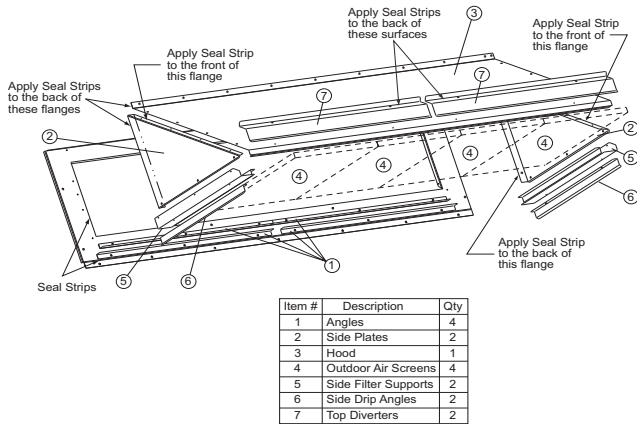

Fig. 15 — Hood Part Identification and Seal Strip Application Areas
See Fig. 15 for identification of the various parts of the hood assembly.
3. Apply seal strip to mating flanges on the side plates of the hood (see Fig. 15).
- Apply seal strip to mating flange of the hood (see Fig. 15).